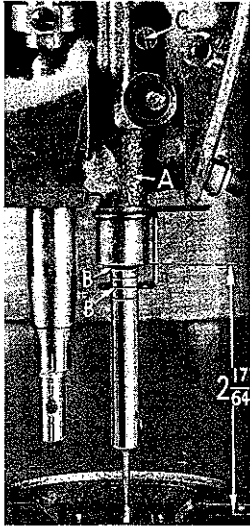
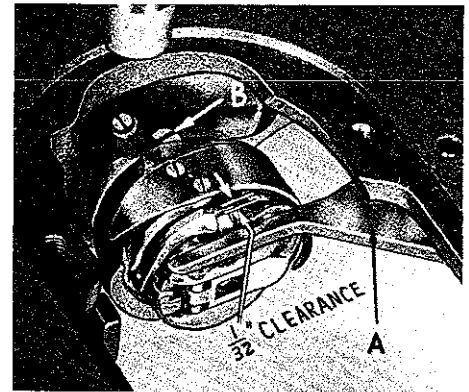

Fig. 11
Fig. 12
The lower end of the needle bar frame, the one to which the needle bar is timed, is faced to height at the factory. The distance from the bottom of frame (A, Fig. 11) to the throat plate seat is  $2 \frac{17}{64}$  inches.
When the needle bar is at its lowest position, the upper timing line (B, Fig. 11) (of the pair selected) dependent upon the needle used, should be EVEN with the lower edge of the lower needle bar frame (A).
The illustration (Fig. 11) shows the proper setting of the needle bar on Styles 63900 A, C or AL using extra short length needles, Type 183. The setting of the needle bar on Styles 63900 B or D using short length needles, Type 180, is accomplished in the same manner, except that the lower pair of timing marks on the
Tip the machine back so that it rests on the rest pin in the table top. Insert a new needle. Loosen the two screws, and swing out the bobbin case positioning finger (A, Fig. 12). Loosen the three set screws (B) in the hook, and hold the hook and bobbin case holder in such a position as to prevent interference with the needle. Turn handwheel in operating direction until the needle bar is at its lowest position, and continue to turn the handwheel until the needle is ascending and the lower timing mark (of the pair selected) (Fig. 11) used in setting the needle bar is even with the lower edge of the needle bar frame (A).
Adjust the bobbin case holder positioning finger by turning the bobbin case holder until the finger recess is at the top. Place the projection on the finger into the bobbin case holder recess and tighten the finger attaching screws securely, allowing  $1/32$  inch clearance between the outside edge of projection and the inside edge of bobbin case recess (Fig. 12).